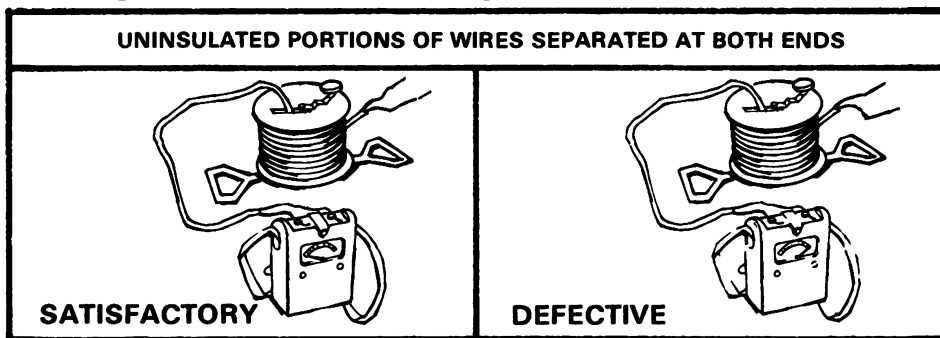

Figure 4a.
(1) Separate the firing wire conductors at both ends, and touch those at one end to the galvanometer posts. The needle should not move. If it does, the firing wire has a short circuit (figure 4a).